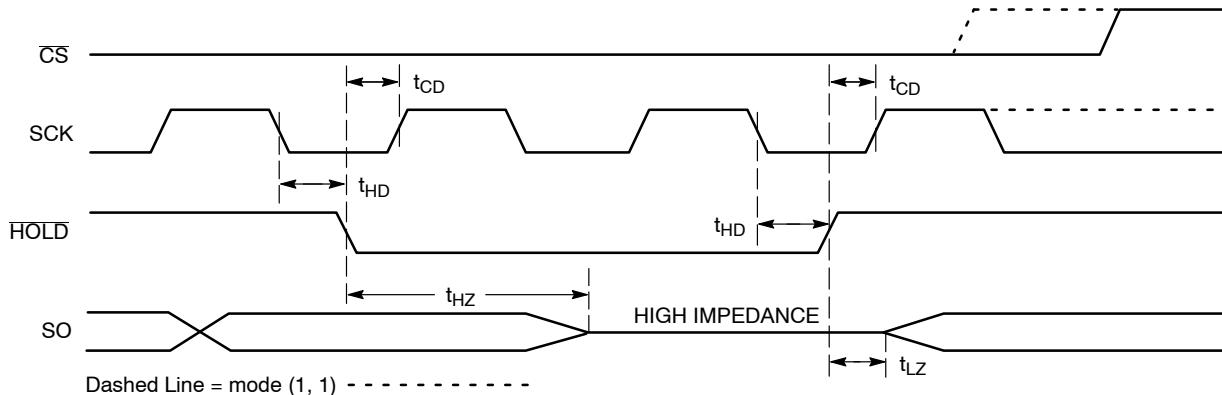

Figure 11. HOLD Timing
The HOLD input can be used to pause communication between host and CAT25010/20/40. To pause, HOLD must be taken low while SCK is low (Figure 11). During the hold condition the device must remain selected (CS low). During the pause, the data output pin (SO) is tri-stated (high impedance) and SI transitions are ignored. To resume communication, HOLD must be taken high while SCK is low.